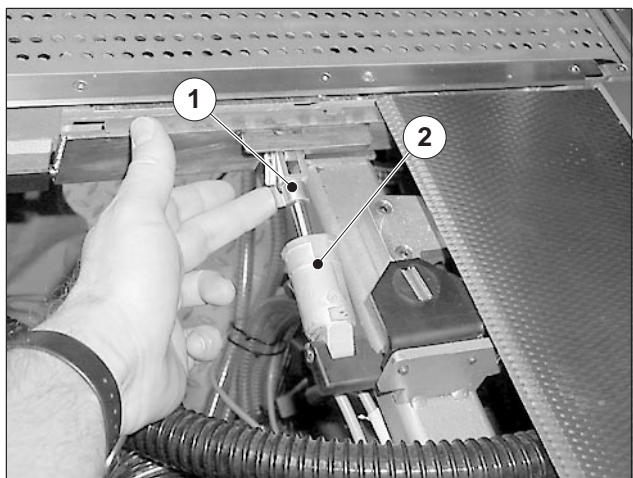

Fig. 101
5. Hook in the pneumatic cylinder (Fig. 101/2) at the breather.
6. Close the retaining spring (Fig. 101/1) on the pneumatic cylinder.